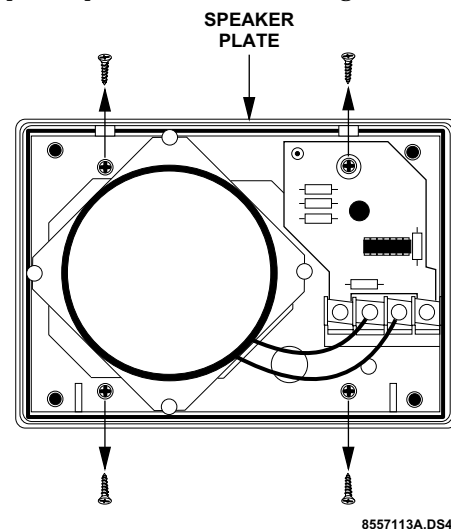

Figure 1 Speaker Plate
3. Remove the speaker plate screws and lift the speaker plate off the back box (figure 1).